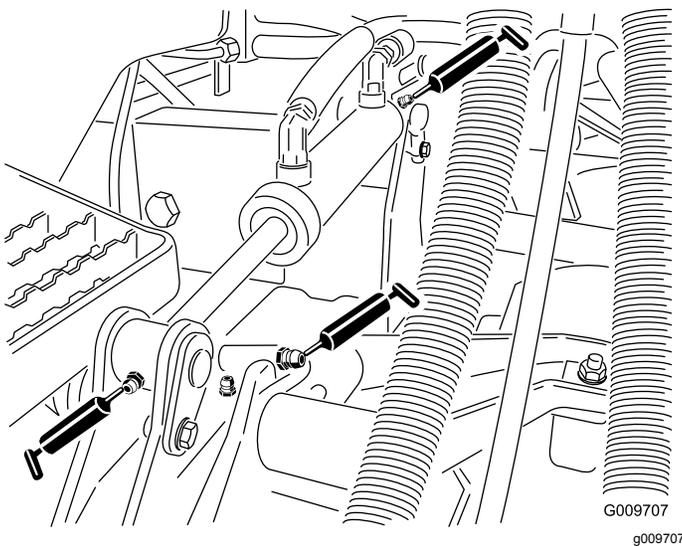

Figure 49
- Lift-arm bushings (1 per deck) (Figure 49)
- Lift-cylinder bushings (2 per deck) (Figure 49)